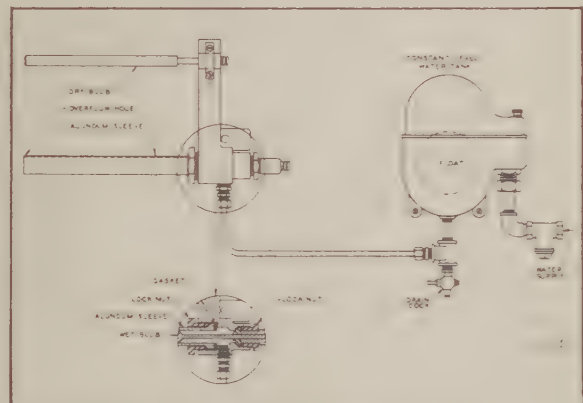

FIGURE 4. FIXTURE 197
4. Fixture 197 (see Fig. 4). Mount Fixture 197 where the humidity is to be measured. The circulation of the air in the area of measurement should be as great as possible. If good circulation cannot be achieved, it may be necessary to go to forced-air sampling. The wet bulb in Fixture 197 takes a porous alundum sleeve instead of a wick. This sleeve is kept wet by a constant-level tank. Installation of the bulb and sleeve is covered in paragraph D below.
In Fixture 197 the dry bulb is clamped to the top of the bracket as shown in Fig. 4. The wet bulb is mounted as shown in the cross-sectional view in Fig. 4. Be sure that the overflow hole in the alundum sleeve is at the top of the sleeve.